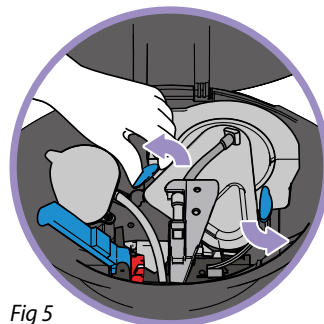

Fig 5
6. Remove the SmartFlo™ cartridge and bottle tube by unlatching the blue locking arm and rotating the two blue knobs to the open position (Fig 5).